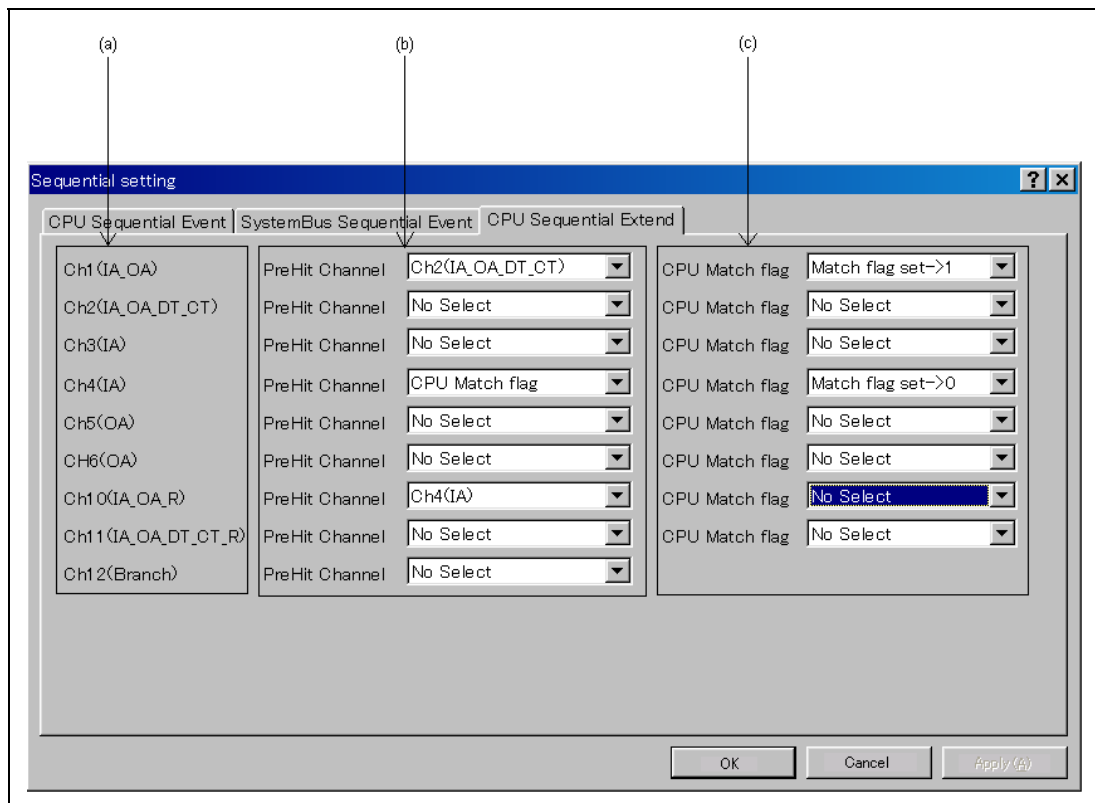

Figure 2.1 [CPU Sequential Extend] Page
5. Set the [CPU Sequential Extend] page as shown in figure 2.1.